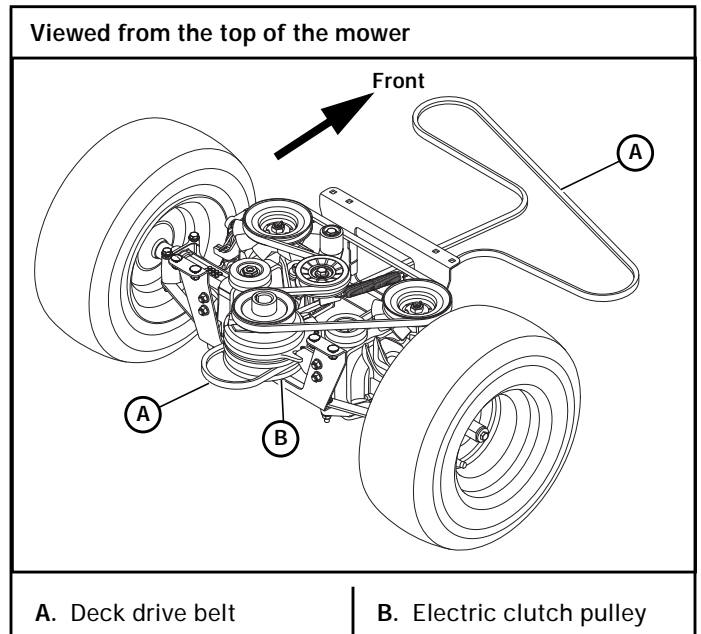

Figure 4-8
7. Remove the deck drive belt from the electric clutch pulley located on the engine shaft. Figure 4-8
**NOTE:** Make certain the belt is routed properly around the spindle pulleys and idler pulleys. Figure 4-8